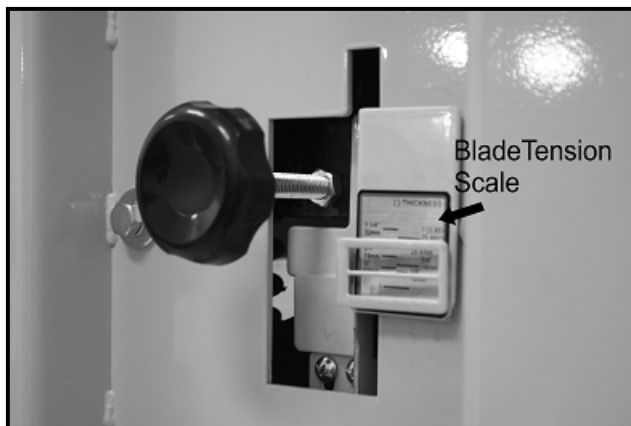

Figure-20 Blade tension scale
*All blades stretch with use, and the scale at the back of your band saw (shown in figure-20) is just an approximation. So, do not rely on any adjusted measurement for long period of time as the blades stretch and the tension on the blades changes.*